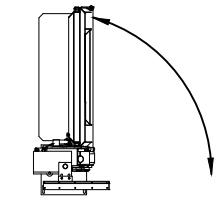

Figure 4
- Step 2. Rotate the gate 90° to parallel with the inside wall of the vehicle. (Figure 4)